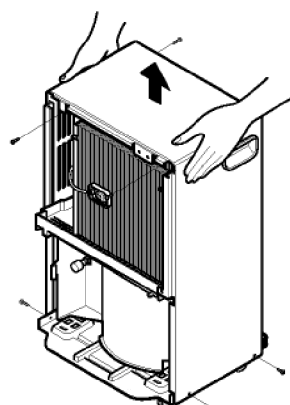

Figure 13
2. Remove 1 screws that fasten Control box. (See Figure 13)
4. Lift the Cabinet from the base. (See Figure 13)